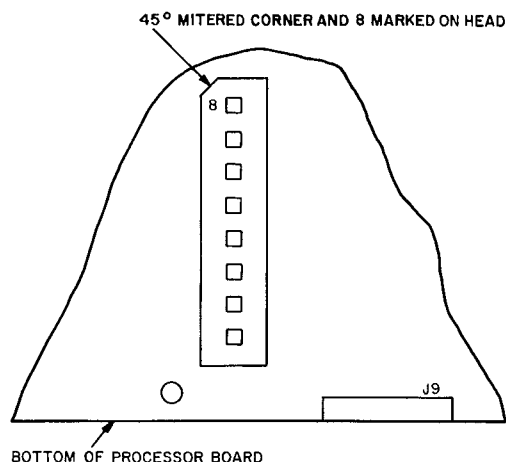

Fig. 24 — Configuration Header
7. Remove the factory-installed configuration header from the old processor board. Use a small screwdriver to wedge under the configuration header to remove it; then install the header in the new board. The orientation of the header should be as shown in Fig. 24. Use extreme care in handling the header.